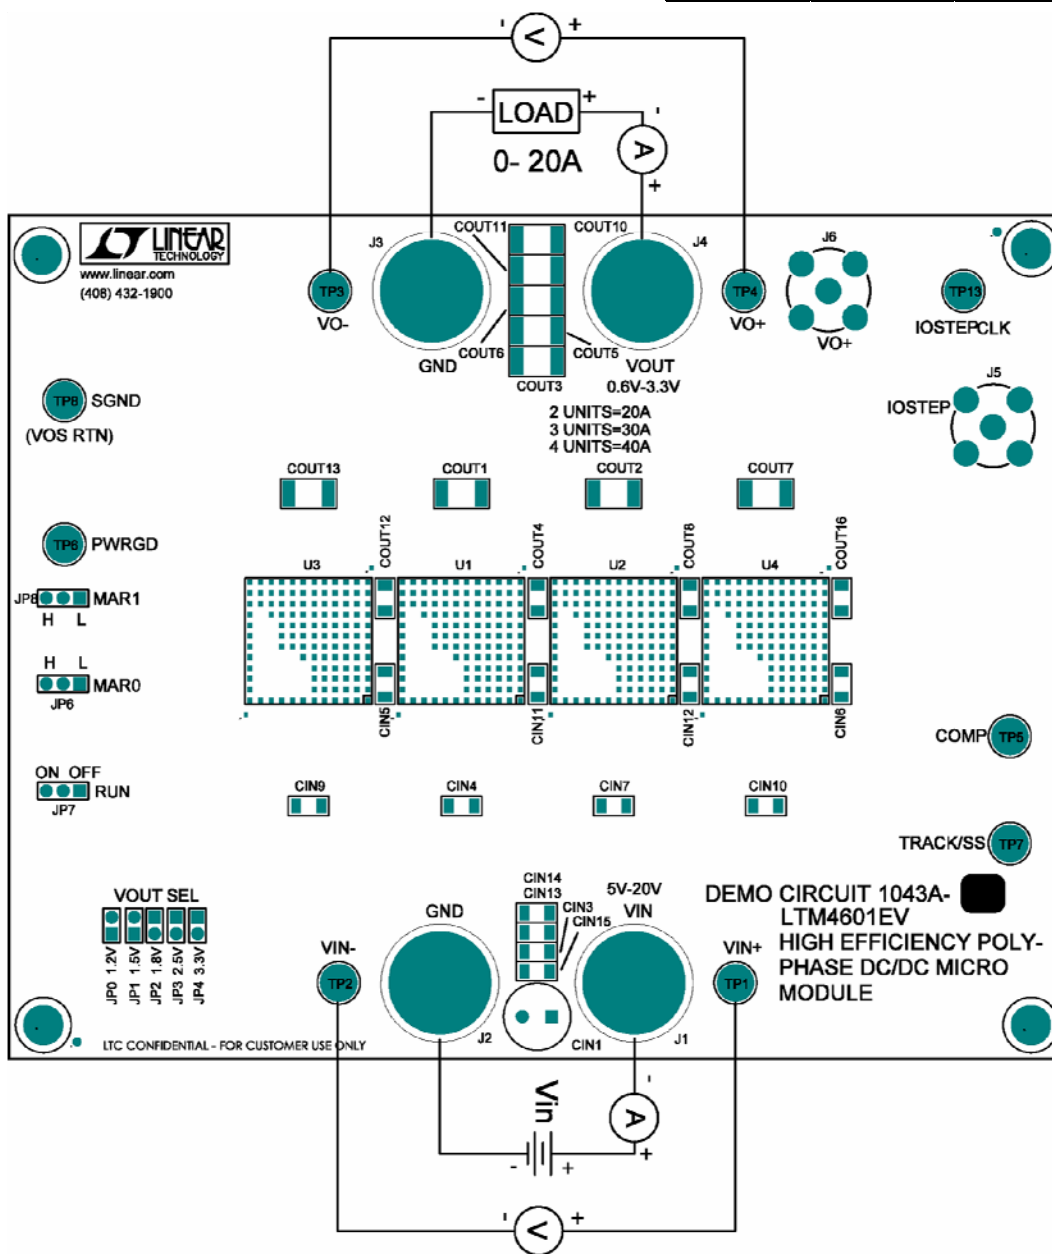

Figure 1. Test Setup of DC1043A-A
Demonstration circuit DC1043A-A is easy to set up to evaluate the performance of the LTM4601EV. Please refer to Figure 1 for proper measurement equipment setup and follow the procedure below:
- With power off, connect the input power supply, load and meters as shown in Figure 1. Preset the load to 0A and V_{IN} supply to be less than 20V.